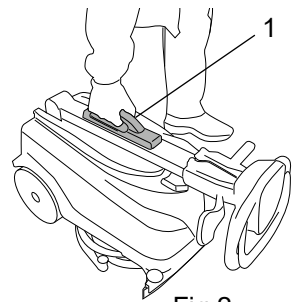

Fig.2
- Lift the machine out of the box by the handle (fig. 2, ref. 1) and set it down on the floor.